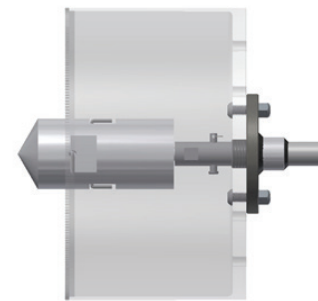

Figure 22
**3.4.3)** Insert 4-inch centering tool into extension adapter, align through-hole with extension through-hole and lock in place with cotter pin & clip (see Figure 22).